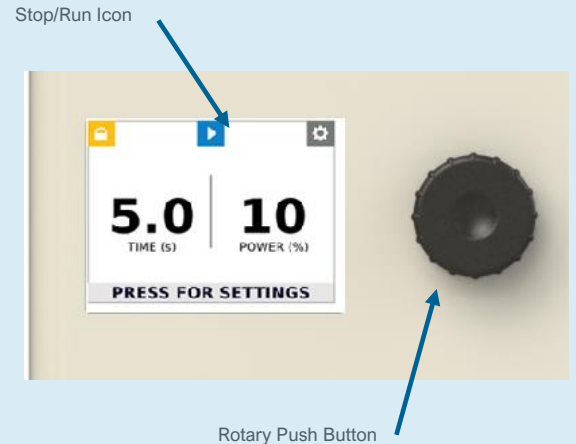

Figure 12.
2. Initiate the cure cycle by pressing the Foot Switch or Rotary Push Button on the front panel of the BlueWave® AX-550 Controller. If using the Rotary Push Button, make sure to first highlight the Stop/Run Screen Icon (Figure 12)